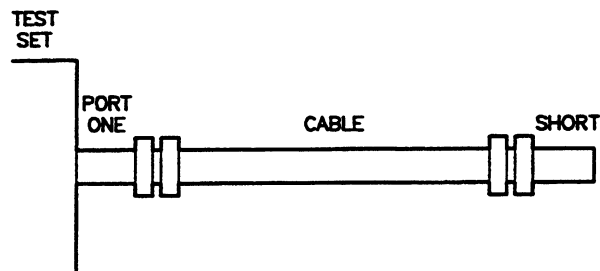

Figure 3-3. Insertion Loss Test Setup
1. Connect the equipment as shown in Figure 3-3.